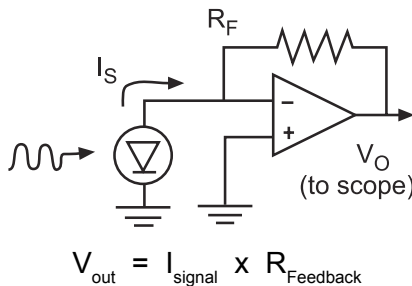

Fig. 1: Recommended Operating Circuit
J10D series InSb detectors are photovoltaic and generate a current proportional to the intensity of the photons absorbed. For maximum detectivity these detectors are operated at zero volt bias. Figure 1 shows the recommended operating circuit, using a low-noise FET op amp in a negative feedback, current mode configuration. The signal current (I_s) times the feedback resistor (R_F) results in the output voltage (V_O). The properties of the op amp ensure that the detector remains near zero volt bias.
- Operation at 0 volt bias is recommended (see Figure 1). Maximum reverse bias is -200 mV. Do not allow a current more than ten times the short circuit current to flow through the junction.